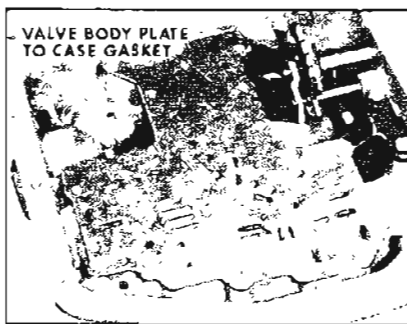

Figure 5-340
1. With transmission in horizontal position, install valve body to plate gasket. See Figure 5-340.